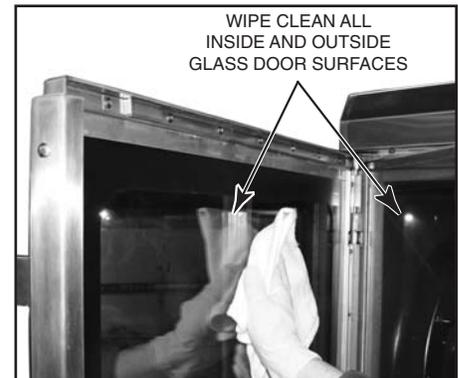

Figure 30
8. Wash doors and inside glass with warm soapy water, rinse, and dry or use a commercial glass cleaner (Figure 30). Take extra care when cleaning outside surface of inner glass because of its special reflective coating. DO NOT remove glass from door.